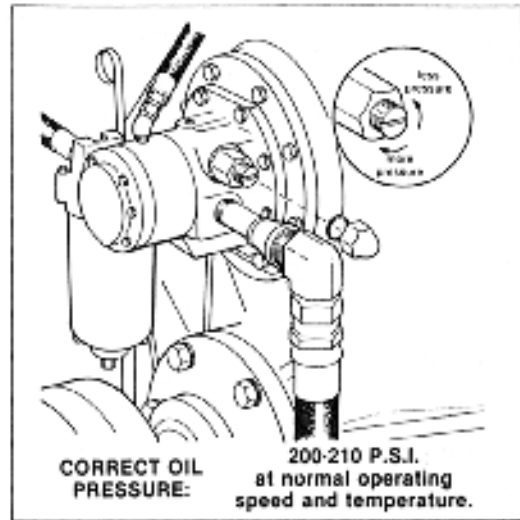

Fig. 17. Correct Operating Oil Pressure Should Be 200-210 P.S.I.
7. Be sure to re-adjust oil pressure to correct operating level when engine is started up. See fig.17.